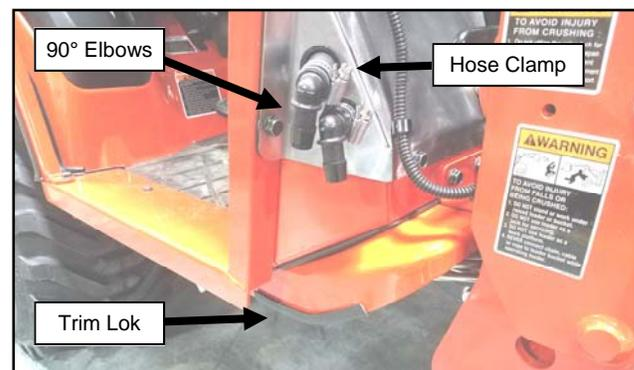

Fig. 17.3 (90° Heater Hose Elbow and Trim Lok)
- 17.3** Make sure the heater hose is not too tight or kinked before going through the snap rings, and cut both ends of hose about 1" beyond the snap rings on the outside. Connect the 90° heater hose elbows and secure with 1" hose clamps. Attach 6" of Trim Lok to the bottom edge of the vehicle floor board. See Figure 17.3.